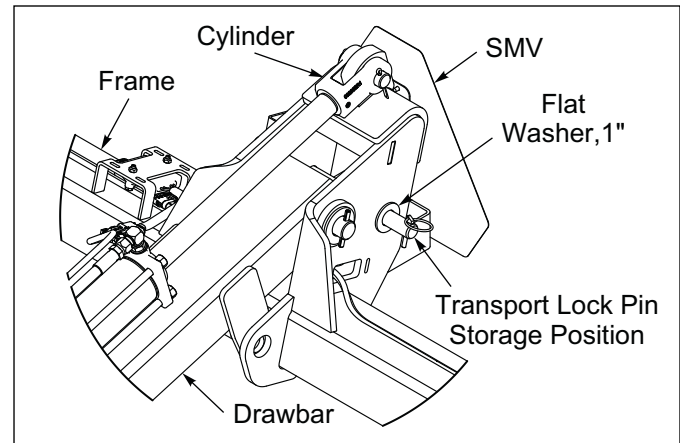
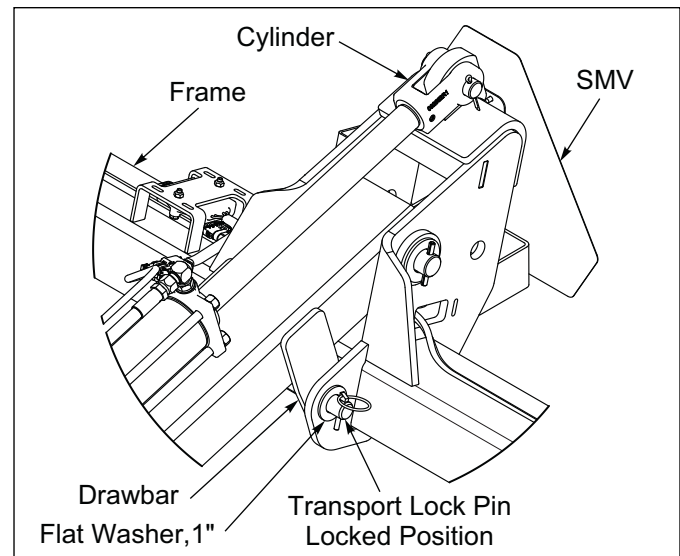
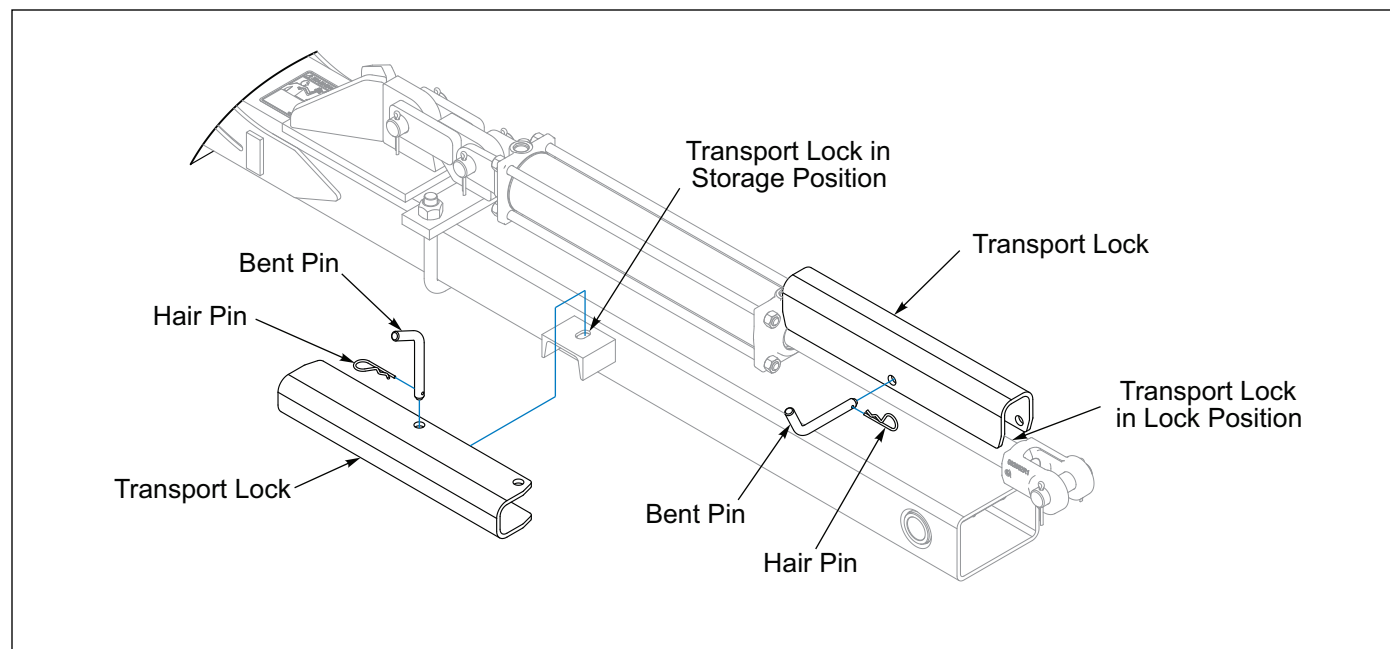

Figure 3-1: Transport Pin Storage Position
Figure 3-2: Transport Pin Locked Position
Figure 3-3: Transport Lock
5. Fully extend the hydraulic lift cylinder. Secure Transport Lock Pin in the lock position. **See Figure 3-2.**
It maybe necessary to extend the Cylinder Rod slightly to remove the Transport Lock Pin from the locked position to the storage position. **See Figures 3-1 and 3-2.**
To prepare the machine for transport, hitch pulverizer to desired device, lower jack and pin it up out of the way. Then raise the machine fully. Remove Transport Lock Pin from storage position and install the Transport Lock Pin in its locked position. **See Figures 3-1 and 3-2.**
To prepare the machine for transport, raise the Transport Pulverizer completely. Remove Transport Lock from the left side of the Bridge Hitch. Place the Transport Lock over the cylinder rod. Secure in place by inserting Bent Pin and Hair Pin. **See Figure 3-3.**
Once the machine has been transported to the field, remove the Transport Lock from the cylinder rod. Place the Transport Lock on the storage channel located on the left side of the Bridge Hitch. Secure in place by inserting Bent Pin and Hair Pin. **See Figure 3-3.**
4. Connect warning lamp harness plug. If machine is to be transported on a roadway install transport locks. **See Figure 3-3.**
Raise the machine. Ensure that the lift cylinder is fully extended. Install the Transport Lock Pin. See Figure 3-2. Install Transport Lock Channel for Bridge Hitch. See Figure 3-3.
Raise the machine slightly to loosen the Transport Lock Pin. Remove Transport Lock Pin and place it in the storage position. See Figure 3-1. Remove Transport Lock Channel from Bridge Hitch Cylinder Rod and place in storage position. See Figure 3-3. Lower the machine until the Wheel and Tire Assemblies are off the ground and the lift cylinder is completely retracted.